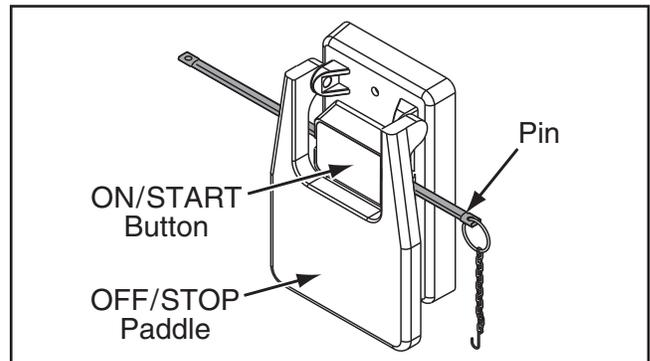

Figure 37. Disabling pin through switch button.
5. Insert disabling pin through switch button (see **Figure 37**).